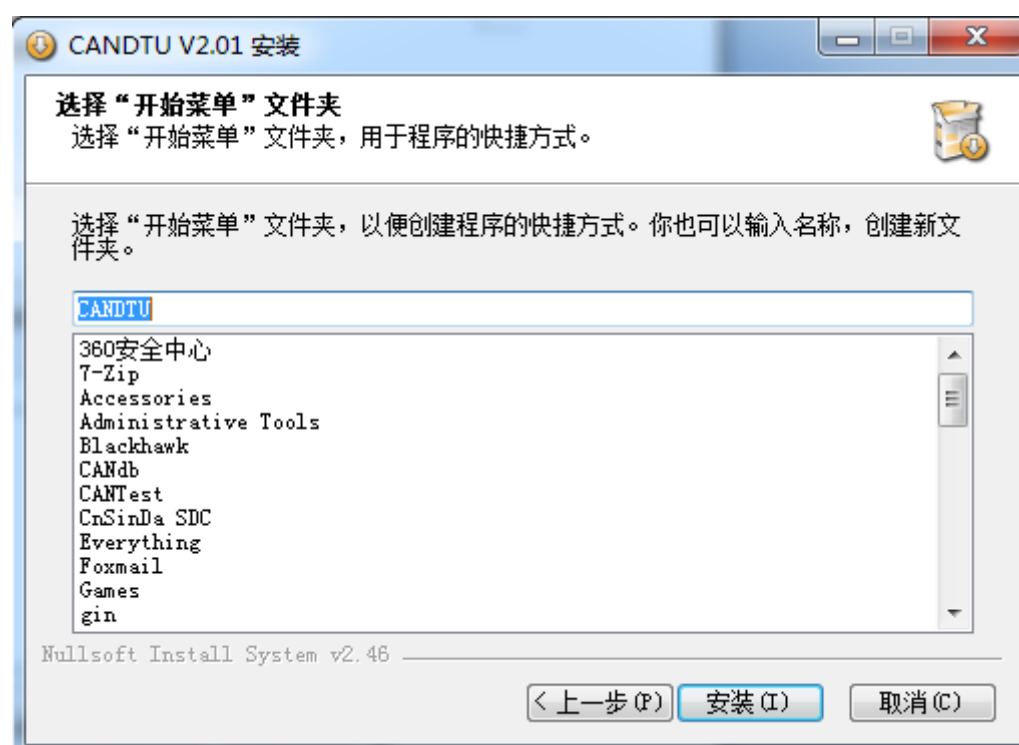

Figure 4.3 Selecting the Start Menu Folder
3) Click "Next". The dialog box shown in Figure 4.3 appears.